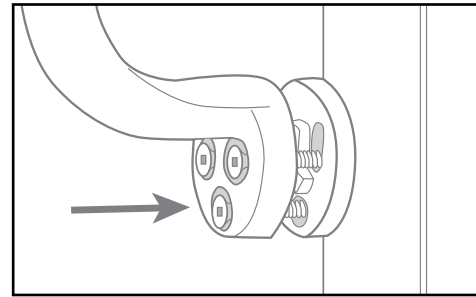

Fig. 18
- Once in place, secure the bracket to the post by driving the screw through the holes in the bracket and slots in the spacer - Fig. 18.